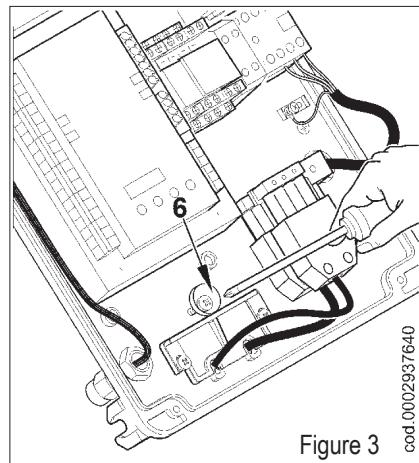

Figure 3
- Reposition the cable float as in figure 3. Turn the cam (6) so that the float exerts sufficient pressure on the two cables, then tighten the screws that fasten the cable float. Finally, connect the two 7 and 4-pole plugs.